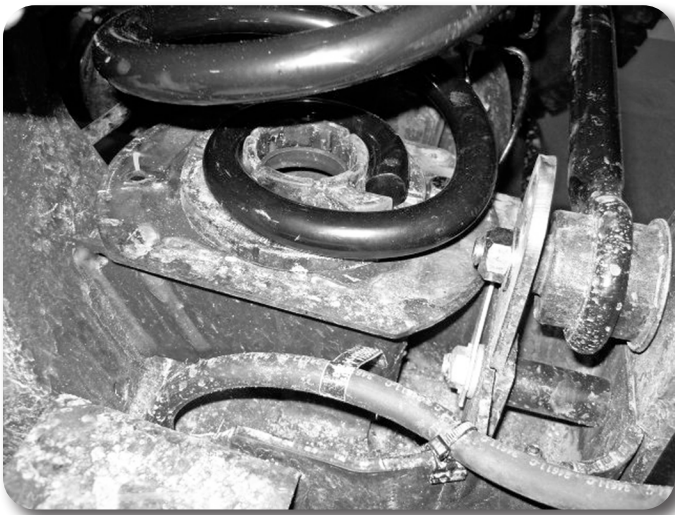

Figure 6
13. Reinstall factory coils with OEM isolators on the spacers. Raise axle and ensure that the isolators are centered over the factory mounts. Orientate the coils so that the lower locating tab is at the rear of the vehicle. Fig 6